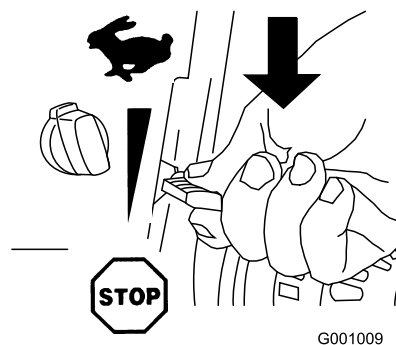

Figure 29
1. Move the throttle to the Stop position (Figure 29).